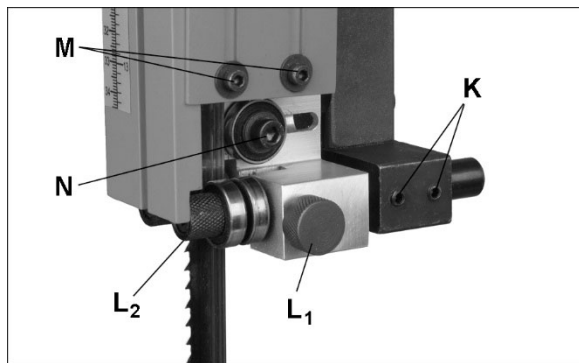
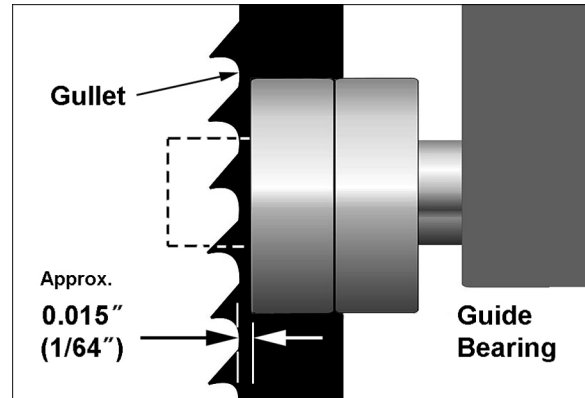

Figure 5-10: blade guide adjustment
Figure 5-11: guide bearing position
Refer to Figures 5-10 and 5-11.
4. Loosen two set screws (K, Figure 5-10) with 3mm hex wrench, and slide entire guide bracket until front of guide bearings are about 0.015" (1/64") behind blade gullet (curved area at base of tooth). See Figure 5-11.
5. Tighten set screws (K, Figure 5-10).
Refer to Figure 5-10.
2. Loosen screws (M, Figure 5-10) with 3mm hex wrench and raise guard plate to expose thrust bearing.
3. Loosen screw (N) with 5mm hex wrench, and slide thrust bearing until it almost touches back of blade. (This blade-to-bearing gap can be set in similar fashion as the side guides, with business card or dollar bill.)
4. Tighten screw (N).
5. Lower guard plate (M) and tighten in place.
Movement summary: Loosen screws on guide bracket (P) to adjust bearing assembly (refer to Figure 5-11). Loosen screws (R) and rotate eccentric guide bearings in relation to blade. The thrust bearing is moved forward and backward by loosening set screw (S) with 4mm hex wrench and rotating knob (T). Retighten set screw (S) to secure position.